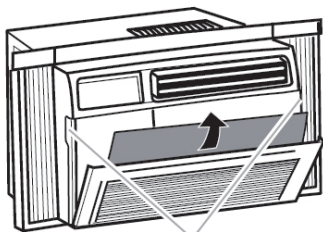

FIG. 15
1. Remove the filter by pulling down on the indent of the filter door on the front of the unit. (See FIG. 15)